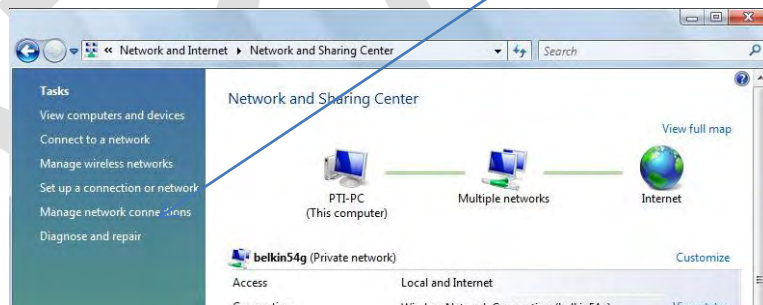

Fig 7
c. When the window opens click on “**Manage Network Connections**” (Fig 7)